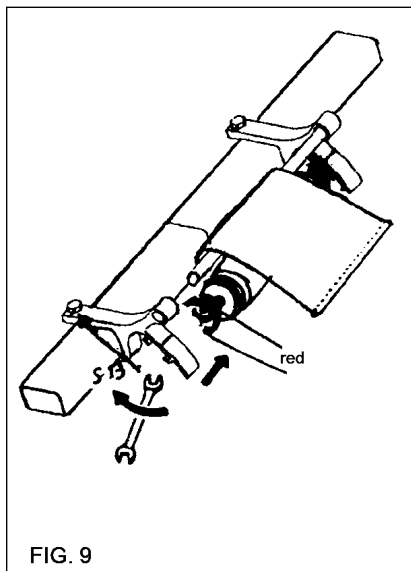

FIG. 9
INSTALLATION OF THE INTERMEDIATE TUBE (fig. 9)
- Wind up the spring 8 turns(6 for 3.5m proj.) as shown on fig.9 ref1.
- Glide the left bracket over the lip of the spring spindle together with the tube, make sure the fabric goes over this tube! (fig. 9 ref. 2) and fasten it securely (see fig. 9 ref. 3).